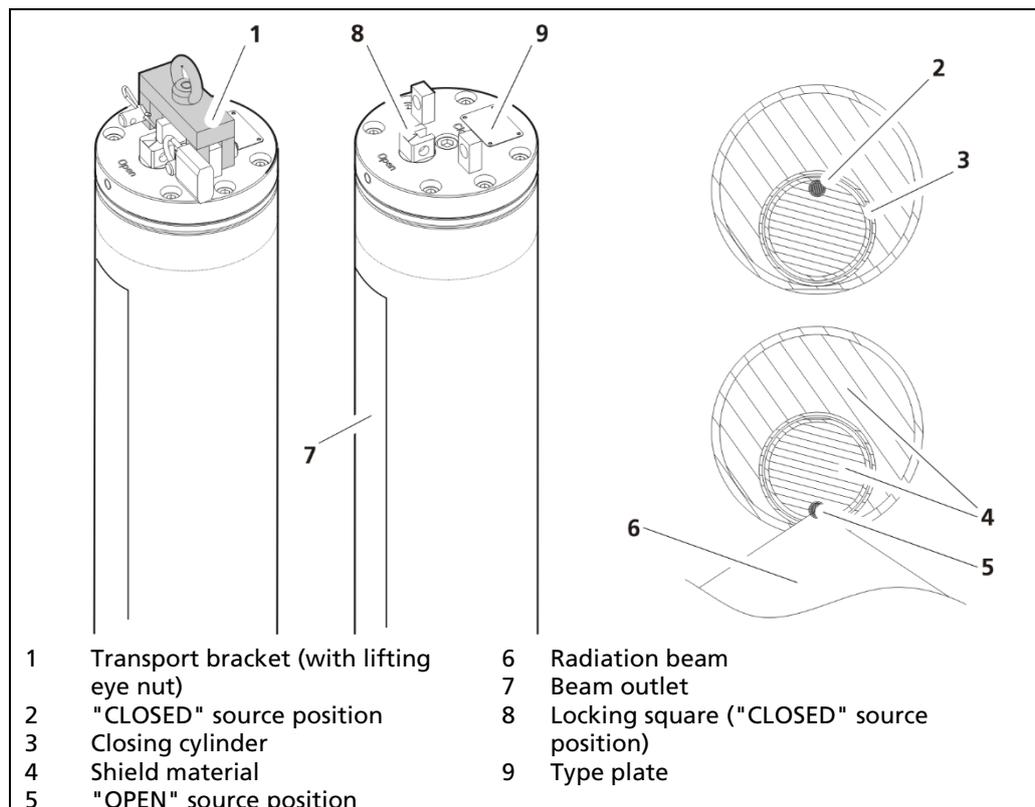

Fig. 2 Basic structure of operation shield
Both positions are limited by an arrestor and equipped with a detent position. For rotating, a square (Fig. 2, pos. 8) is provided on top of the operation shield on which a suitable key, hand wheel or another actuation mechanism can be fitted on-site.
During the transport or for mounting or dismounting the operation shield in the mold construction, the respective lifting eye nut (Fig. 2, pos.1) is to be attached to the Operation shield. This is only possible in the **"CLOSED"** position (pos.8); at the same time, the lock is arrested in this position. By doing so it can be ensured that handling the operation shield is only possible in the **"CLOSED"** position. The equipment is secured by means of a padlock.